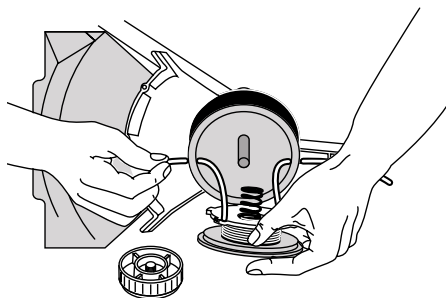

Fig. 35
9. Place the spring in the inner reel. Insert the ends of the line through the eyelets in the outer spool and place inner reel inside the outer spool (Fig. 35). Push the inner reel and outer spool together. While holding the inner reel and outer spool together, grasp the ends and pull firmly to release the line from the holding slots in the spool.
5. Insert the ends of the line through the eyelets in the outer spool (Fig. 35).